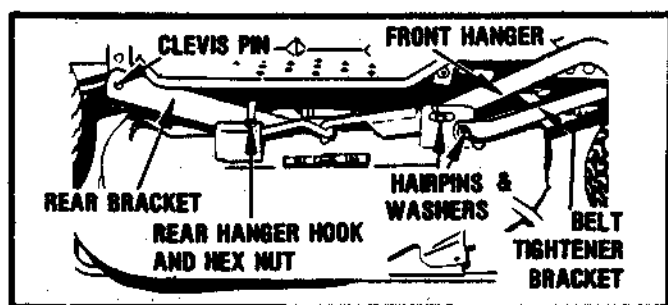

FIGURE 12
REMOVAL OF MOWER PAN — FIGURES 12 & 14
3. Lower the mower pan and remove the hairpin coppers and washer. The two pins and washers on the front secure the mower pan to the front hangers and can be disconnected to free the front of the pan. The other two pins and washers join the front of the pan to the belt tightener bracket. Loosen the hex nuts and turn the rear hanger hooks to the side to free them from the rear hangers. See Figure 12.
INSTALLATION OF MOWER PAN — FIGURES 12 & 13
MOWER PAN LEVELING — FIGURES 12, 14 & 18
3. If adjustment is required, turn the hex nuts on the rear hanger hooks to move the hooks up or down to secure the proper adjustment. When the pan is leveled and hangs evenly, tighten the hex nuts securely. See Figure 12.